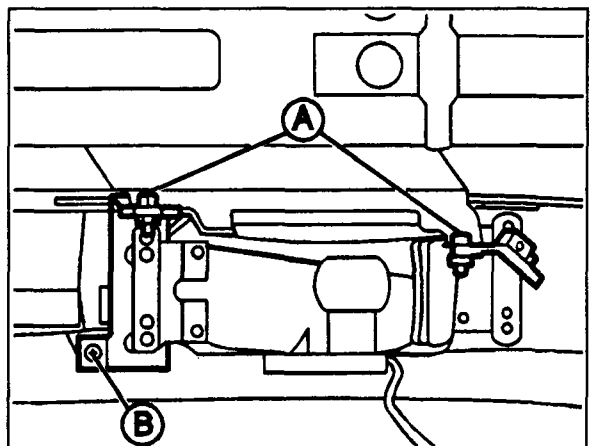

Figure 3
8. Using fasteners provided secure fog lamp to original bracket (A, Figure 3).
9. Screw fog lamp holder to tab of outer covering (B, Figure 3), using the sheet metal screws provided.